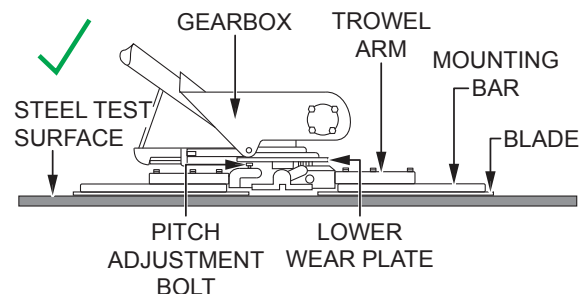

Figure 68. Blades Pitched Flat (Correct)
2. Pitch the blades as flat as possible (Figure 68). The pitch adjustment bolts should barely contact (0.10 inch maximum clearance) the lower wear plate. All adjustment bolts should be spaced the same distance from the lower wear plate. If any one of the bolts does not make contact, adjustment is necessary.